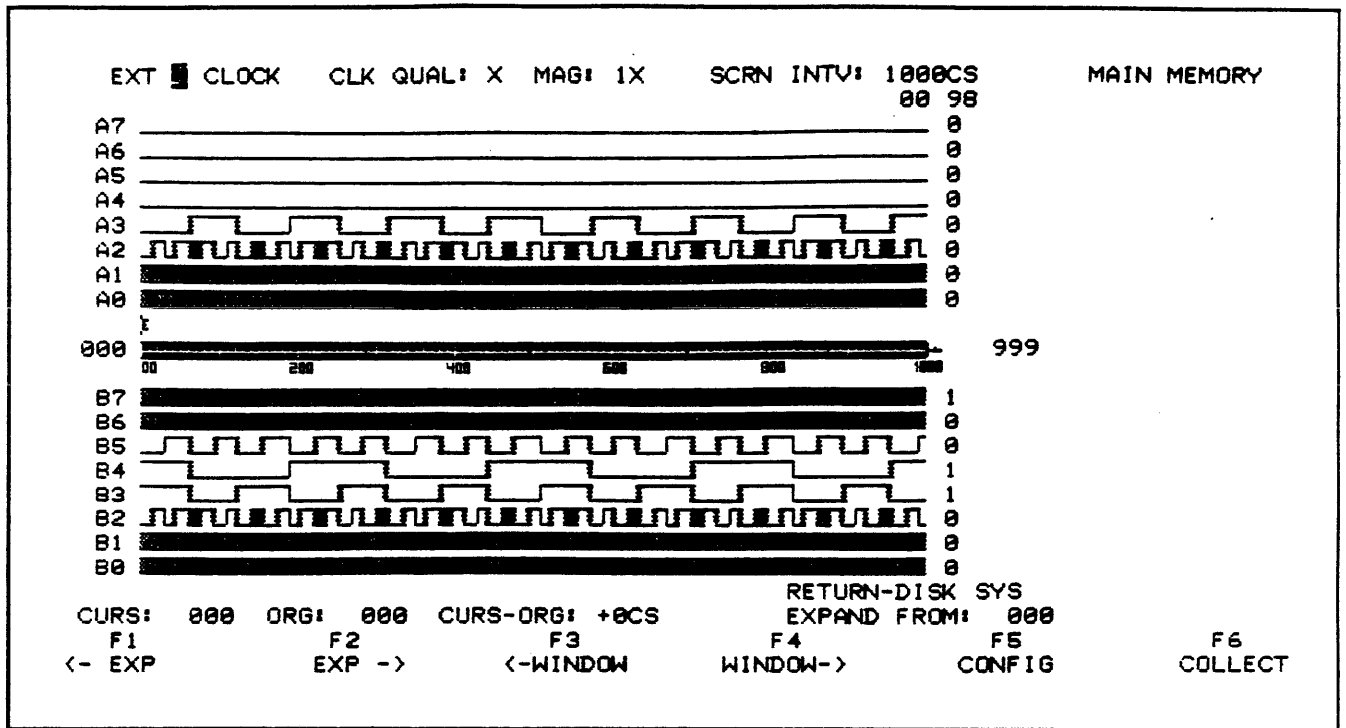

Figure 2-18: Timing Diagram Display
- d. Press COLLECT (F6) key. When a data capture is complete, the screen fills with the timing diagram display. Refer to Figure 2-18.
- e. The inverse video graticule represents the entire 1000 samples in the memory. Observe the small "00" indicator at the left end of the graticule is intensified. This indicates the 00% pre-trigger value set in previously. With 00% pre-trigger, the first word in the data collection (word 000) is the trigger word. The cursor reads the binary and hexadecimal values of each location in the data memory where the cursor is placed. Thus, the trigger word at cursor location 000 should be (0098) HEX . In Figure 2-18. this trigger word appears at the upper right-hand corner of the CRT.
- f. Figure 2-18 also shows the 16 timing channels and the corresponding binary values at cursor location 000. The four most significant A channels (A7-A4) are at ground as described previously. The cross-hatched areas on certain channels indicate that data in the memory are occurring too close together. The current X1 magnification factor is unable to resolve this visually.